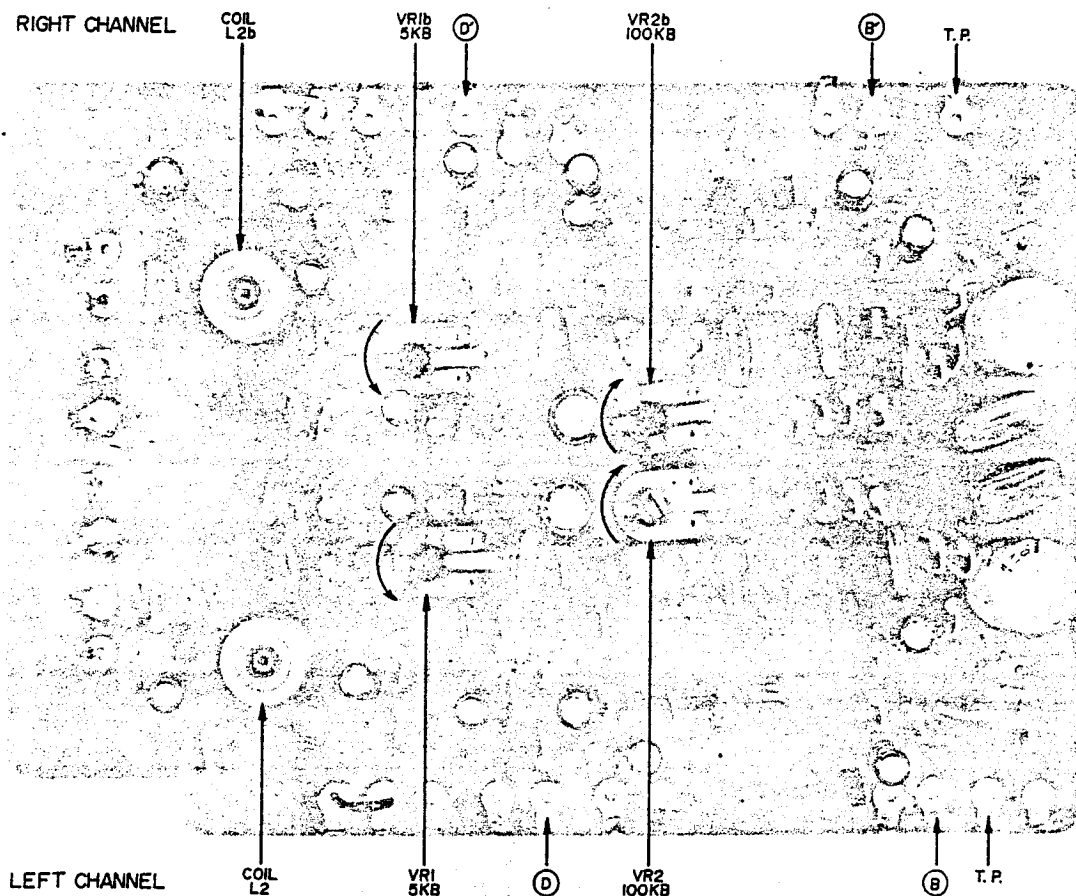

Fig. 26
- Turn Dolby Amp. P.C. Board (CS-5326) Dolby Amp. Gain Adjustment semi-fixed resistors (VR2 and VR2b 500 B) as well as FET Gate Bias semi-fixed resistors (VR1 and VR1b 5k B) as far as they will go in the direction of the arrows shown in Fig. 26.
- Turn Dolby Switch (SW-10) to OFF position and, as shown in Fig. 26, ground Test Point "T.P." (FET Gate).
- At this condition, further adjust the Attenuator so that the line output level at Point (D) shown in Fig. 26 is -28.5 dB. At this time, confirm that the level at Point (B) shown in Fig. 26 is -28.5 ± 0.5 dB.
- Turn Dolby Switch (SW-10) to ON position. At this time, adjust Dolby Amp. Gain Adjustment semi-fixed resistors (VR2, and VR2b 500 B) until the voltage at Point (B) shown in Fig. 26 is increased by 10 dB.
- Disconnect ground from Test Point "T.P." (FET Gate). At this time, adjust FET Gate Bias Adjustment semi-fixed resistors (VR1, and VR1b 5k B) so that the voltage at Point (B) shown in Fig. 26 is reduced by 2 dB.